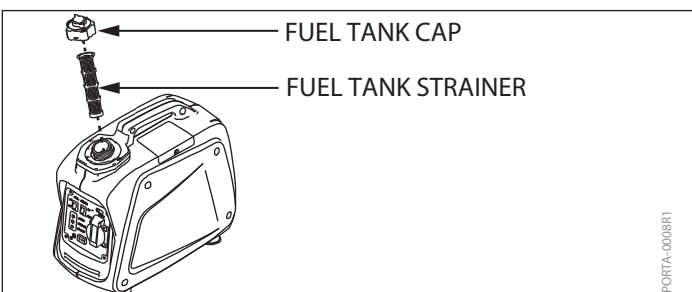

FIGURE 9
1. Remove the fuel tank cap and strainer. **SEE FIGURE 9**